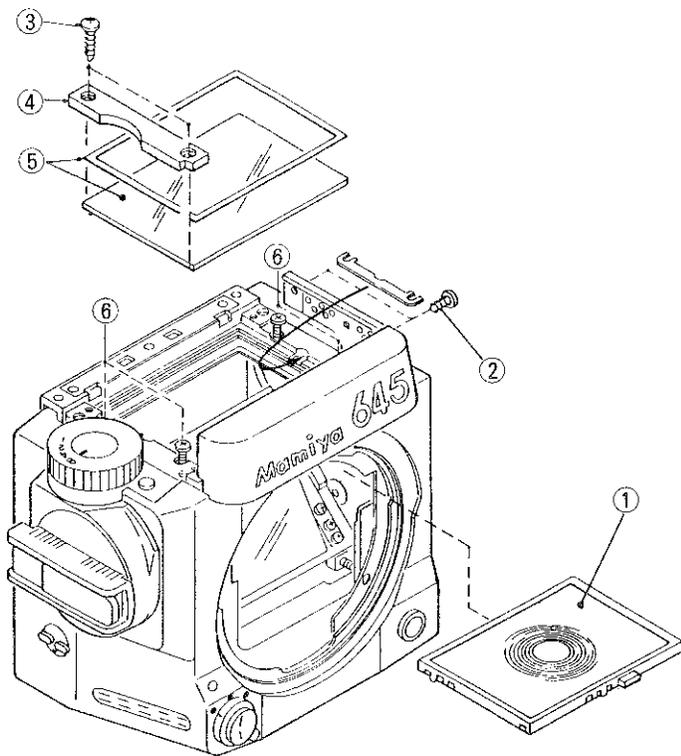

Fig. 76
1. Remove ① to ⑤ in the numerical order illustrated above after checking mirror angle (Fig. 76) and loosen four screws ⑥.